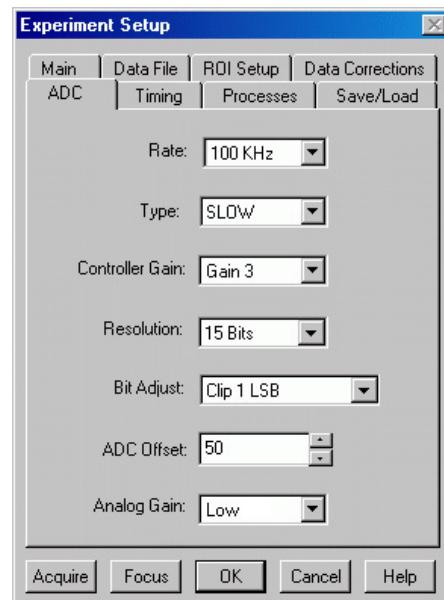

Figure 44. Generic ADC tab page
5. On the **ADC** tab page (Figure 44), set the parameters as they apply to your particular system. Parameters that might be listed follow: